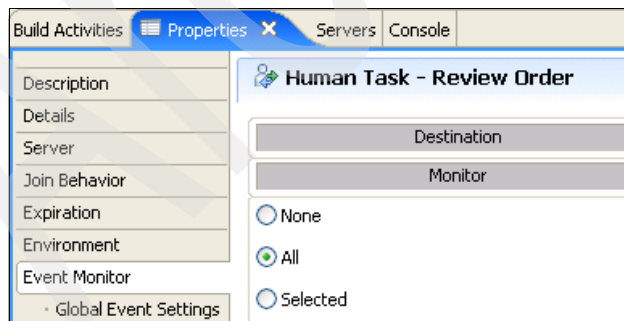

Figure A-2 Enabling event emitting for human tasks
3. Click the **Properties** tab and click the **Event Monitor** subtab (Figure A-2). Select **All** to emit all human task events at run time.